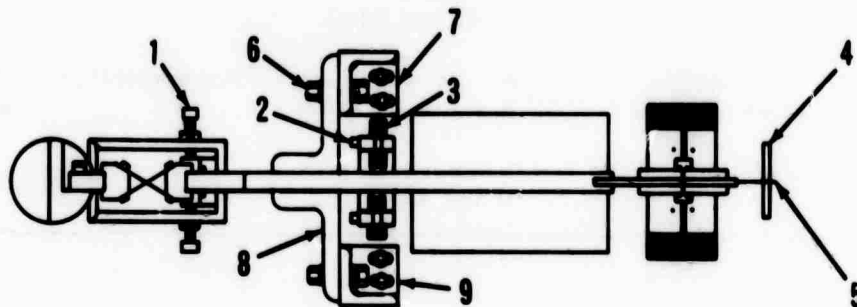

Figure 5-1. Locking the Suspension System
- d. Refer to figure 5-1 and lock the suspension arm by loosening the locking screws (2) and fully tightening the stops (3) so that the pointer (5) is locked on scale zero. Fully tighten the locking screws (2) for reshipment or moving.